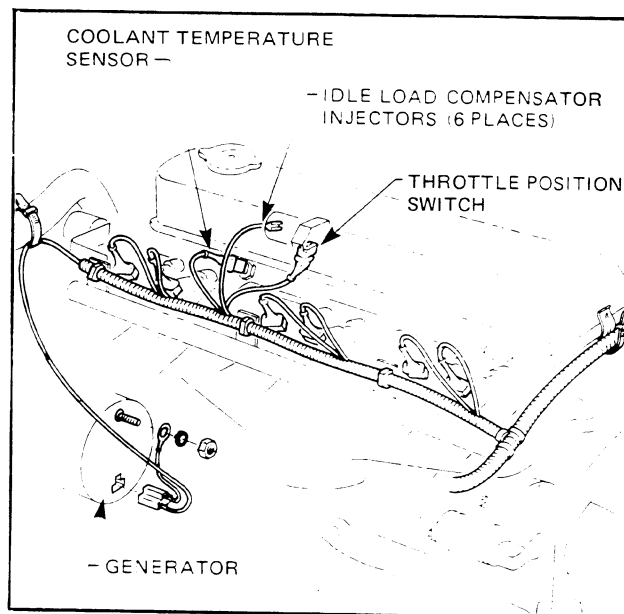

Figure 6C-84
7. Disconnect E.G.R. pipe from inlet and extractor manifolds. Refer Fig. 6C-85.